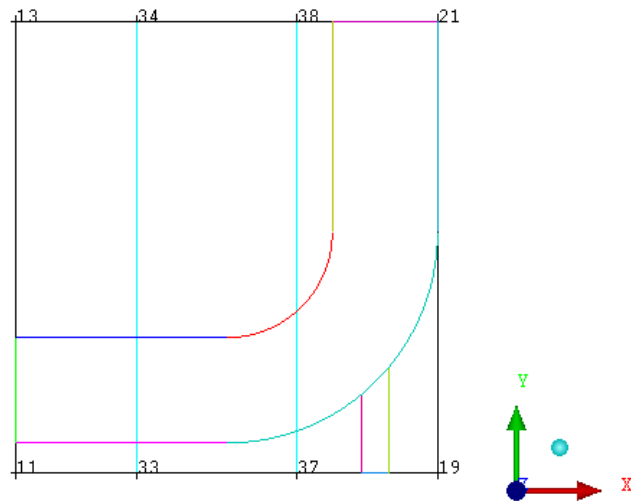

Figure 7: Second Split Edge 33-19
- vi. Similarly, select the edge defined by vertices 33 and 19 or 34 and 21. See Figure 7.